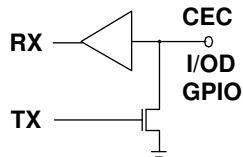

Figure 3. Typical μC I/OD Driver
The Consumer Electronics Control (CEC) line is a high level command and control protocol, based on a single wire multidrop open drain communication bus running at approximately 1kHz (See Figure 3). While the HDMI link provides only a single point-to-point connection, up to ten (10) CEC devices may reside on the bus, and they may be daisy chained out through other physical connectors including other HDMI ports or other dedicated CEC links. The high level protocol of CEC can be implemented in a simple microcontroller or other interface with any I/OD (input/open-drain) GPIO.